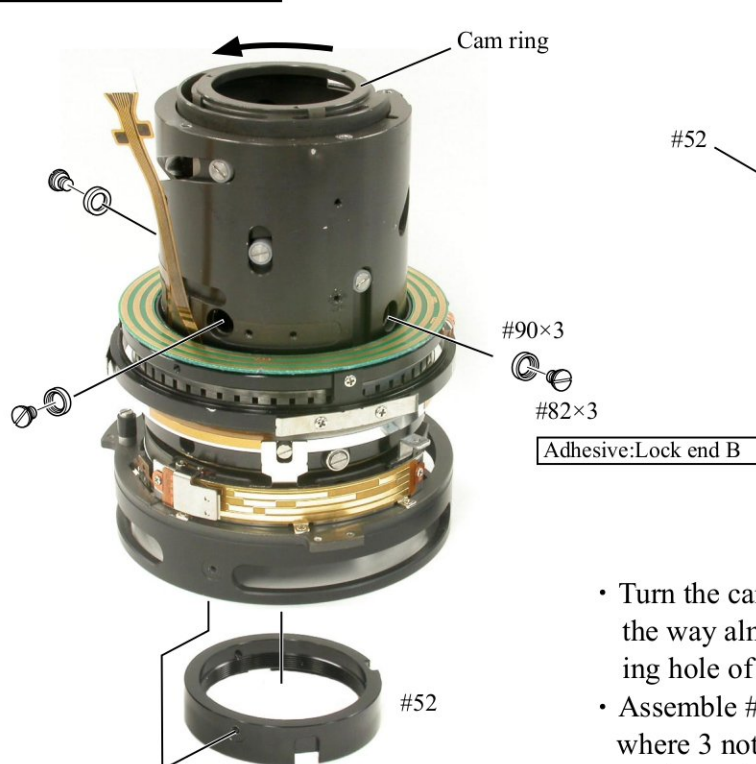

Fig.1
- Attach the levers (#103 and #107) to the 2.5 lens group by positioning in the direction of the arrow, then fix them with 2 screws (#81). (ref. Fig.1)
- Assemble #52 into the lens body at the position where 3 notches (circled in Fig.1) and the MR head are located as shown in Fig.1.